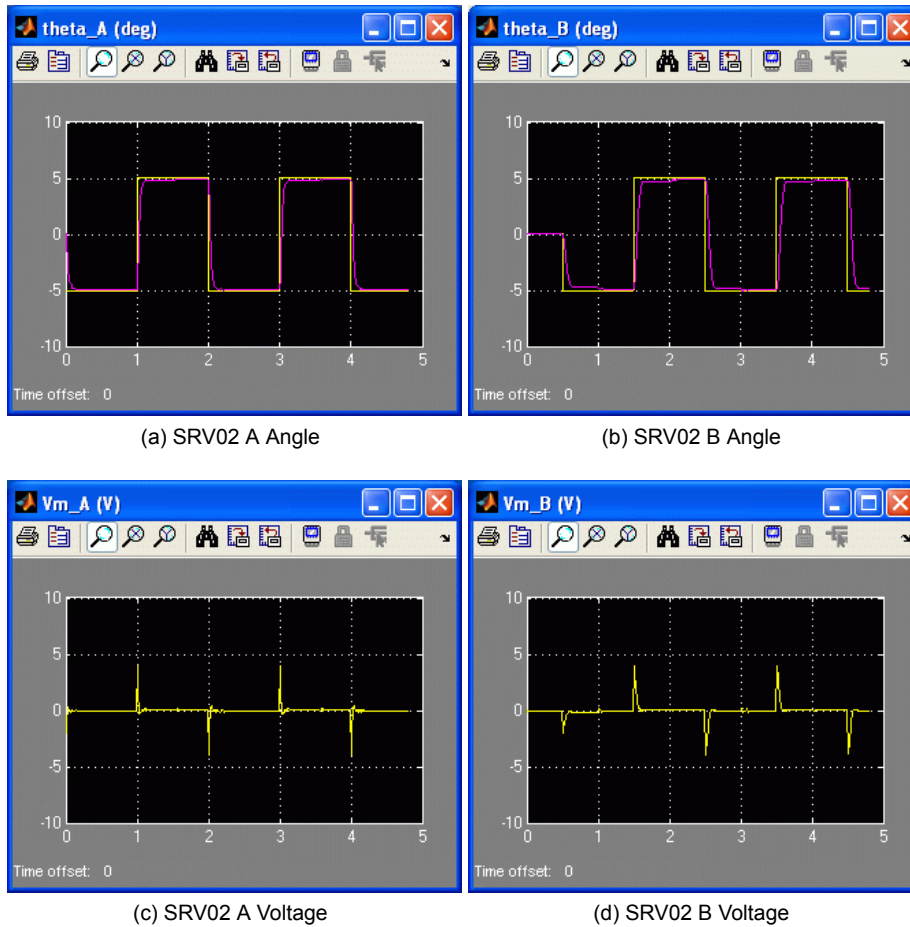

Figure 3.7: Typical response when running joint space control on 2 DOF Robot system
4. Open the load shaft position scope, θ_{d1} (rad), and the motor input voltage scope, V_m (V).
6. Click on QUARC | Start to run the controller. Each servo should begin rotation back-and-forth and the end-effector should be moving in a square-like fashion. The scopes should be displaying responses similar to Figure 3.7. Note that in the θ_{d1} (rad) scopes, the yellow trace is the setpoint position while the purple trace is the measured position.